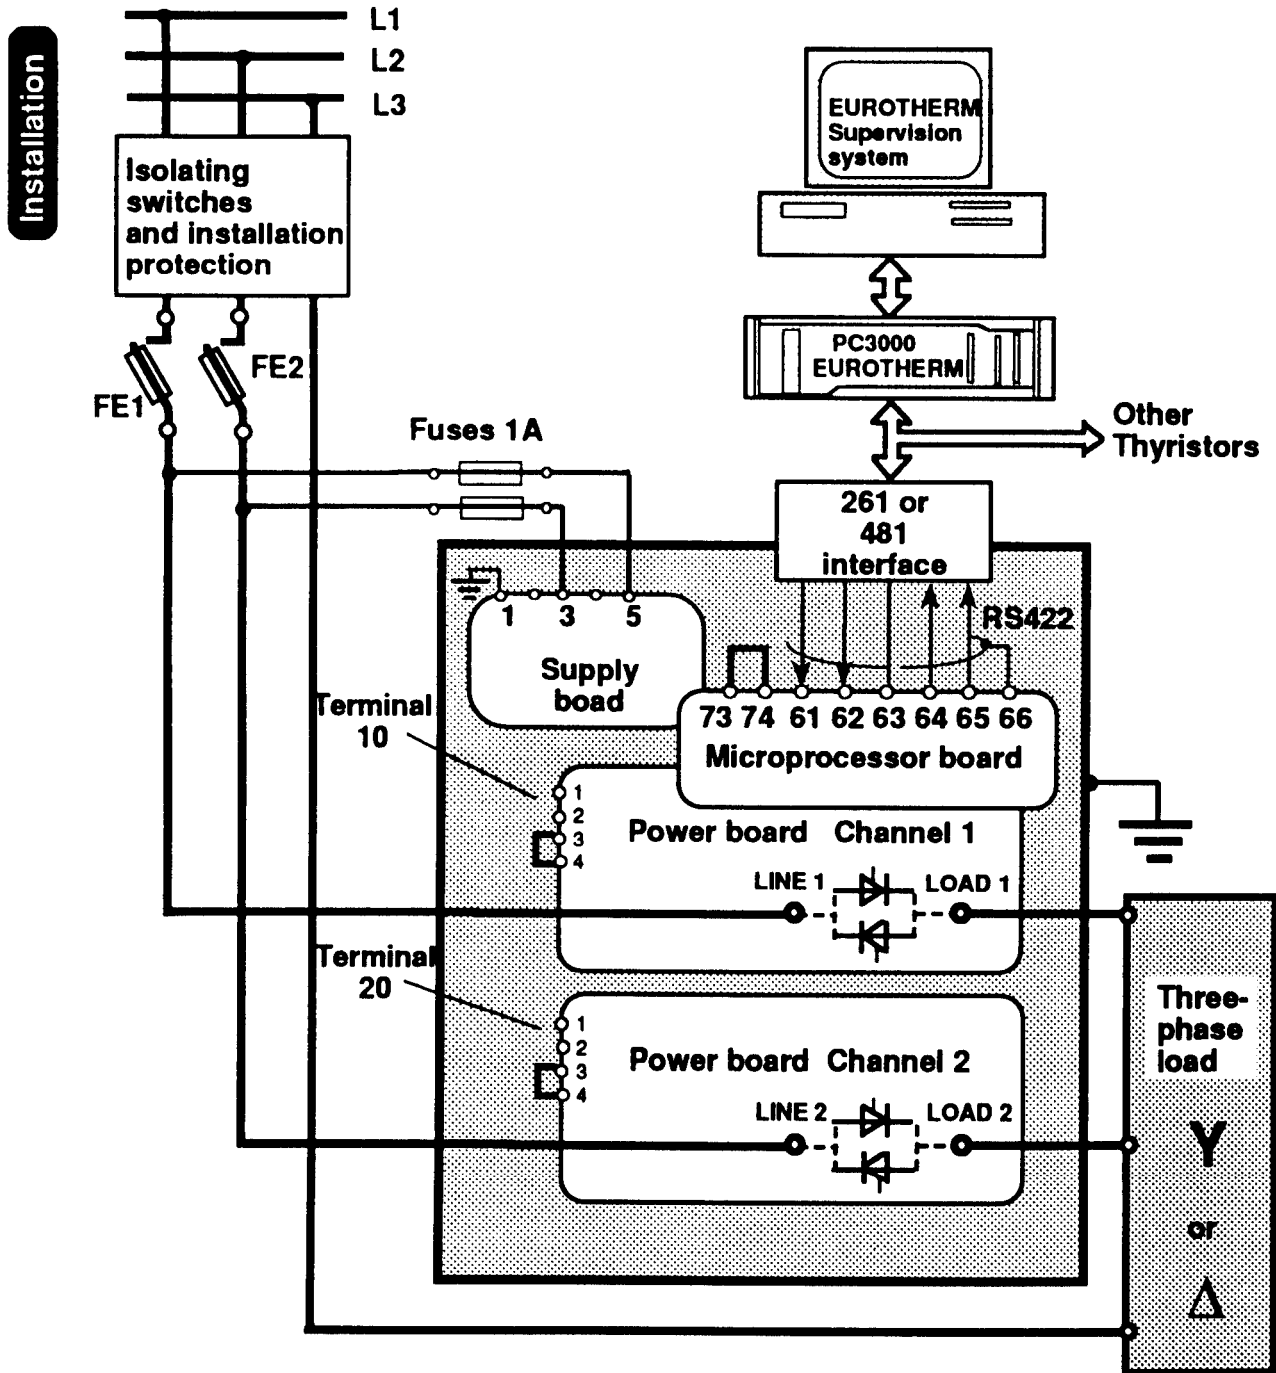
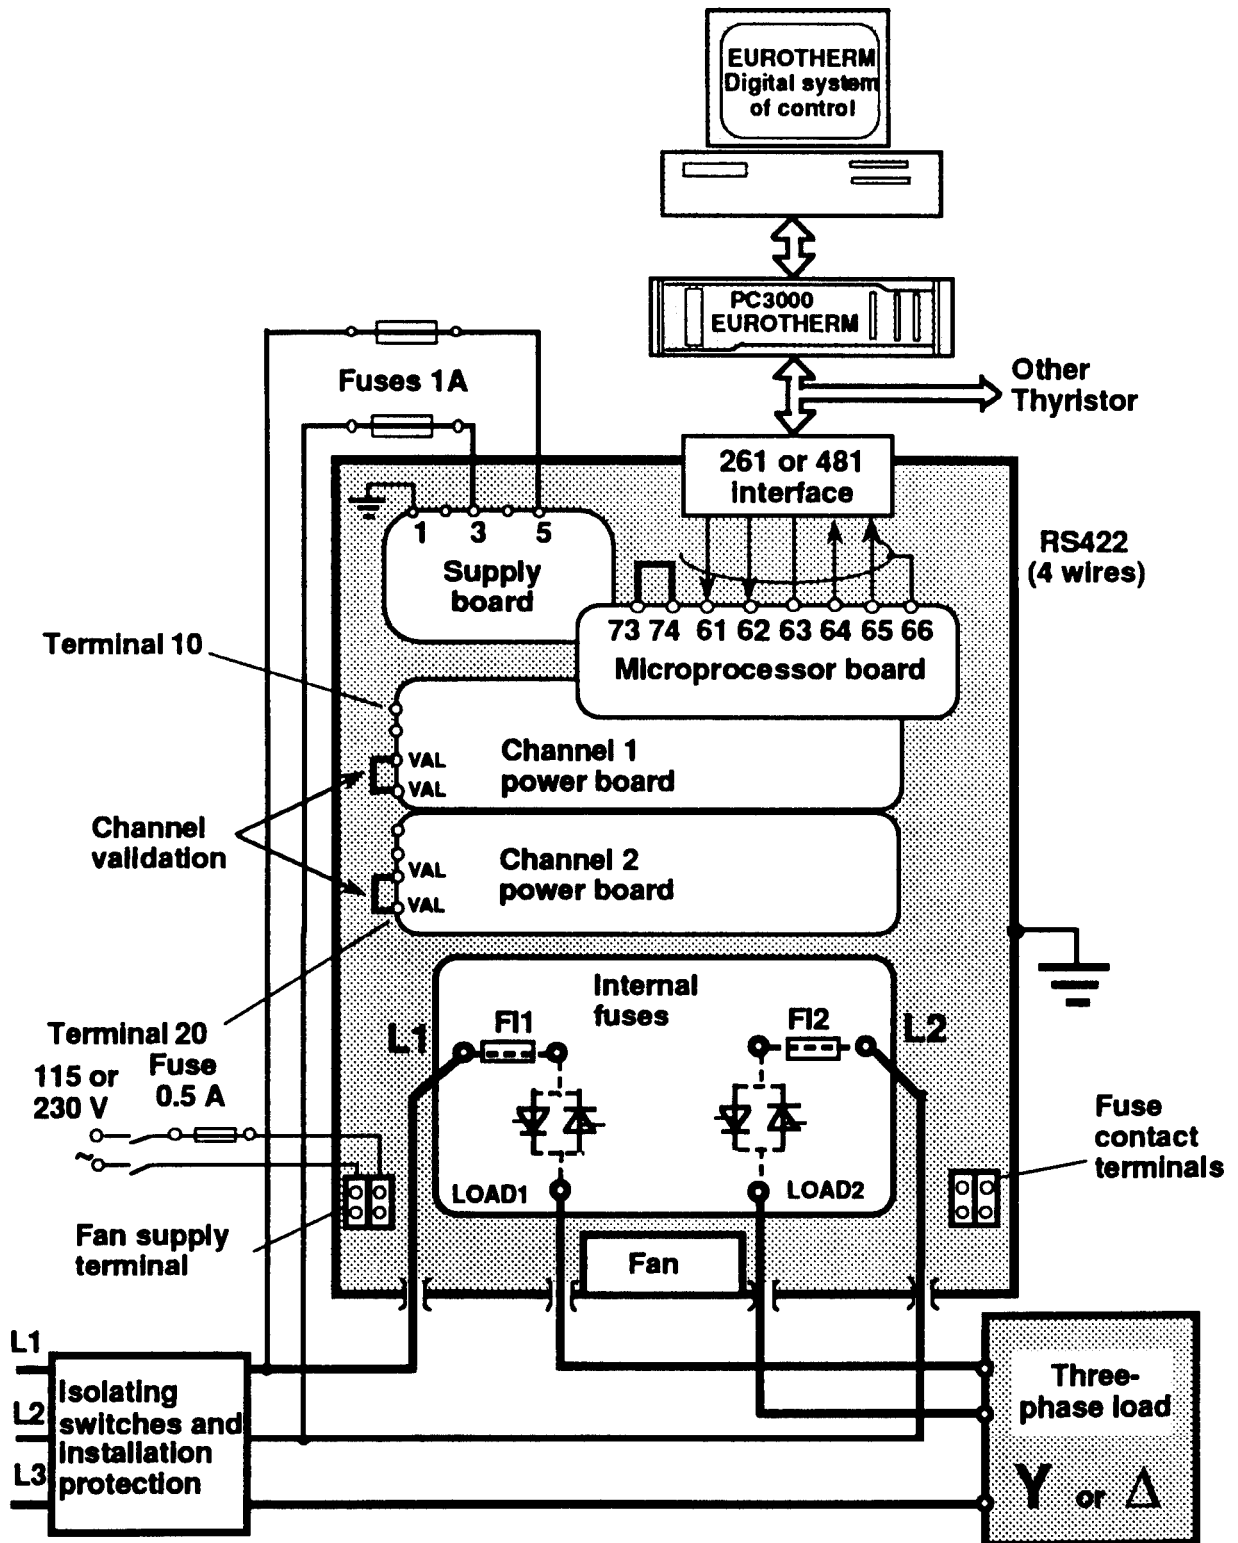

Figure 2.19. Example of a TU2170 thyristor unit wiring scheme
Figure 2.21. Example of a TU2170 wiring scheme, 250A nominal current.
Connectors 10 and 20 are used to enable the board (see fig. 2.19 to 2.21 page 30-32) by short-circuiting terminals 3 and 4.
*The external fuses (FE1 and FE2 in fig 2.19 and 2.20, 40 to 125A thyristor units) and the internal fuses (FI1 and FI2 in fig 2.21, 250A thyristor units) are for the **protection of the thyristor unit and are not a substitute for fuses designed to protect the installation.***